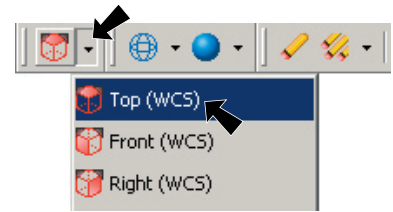

Fig. 21
Step 2. Click the down arrow of the Set Planes button  in the toolbar and click **Top (WCS)**, Fig 21.